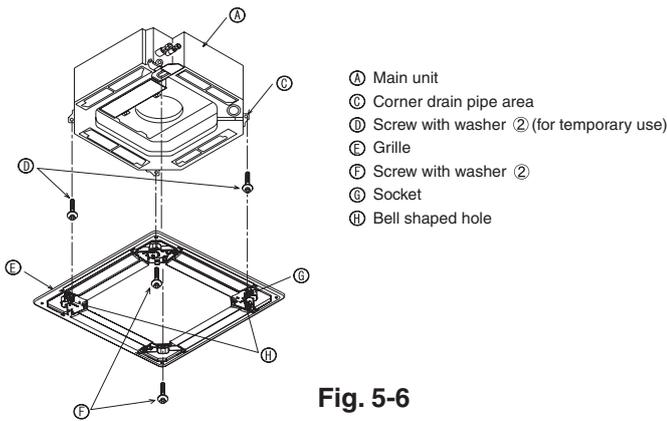
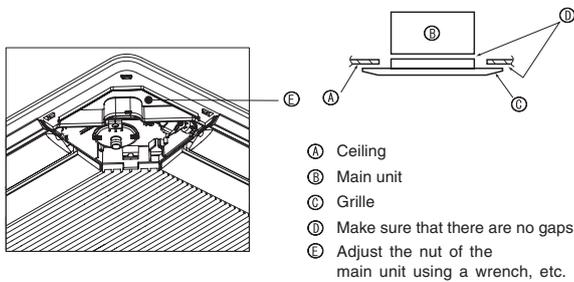

Fig. 5-6
Fig. 5-7
5.4.2. Temporary installation of the grille (Fig. 5-6)
- Temporarily secure the grille using the bell shaped holes by putting the socket of the grille marked (G) on the corner drain pipe area of the main unit.
5.4.3. Securing the grille (Fig. 5-7)